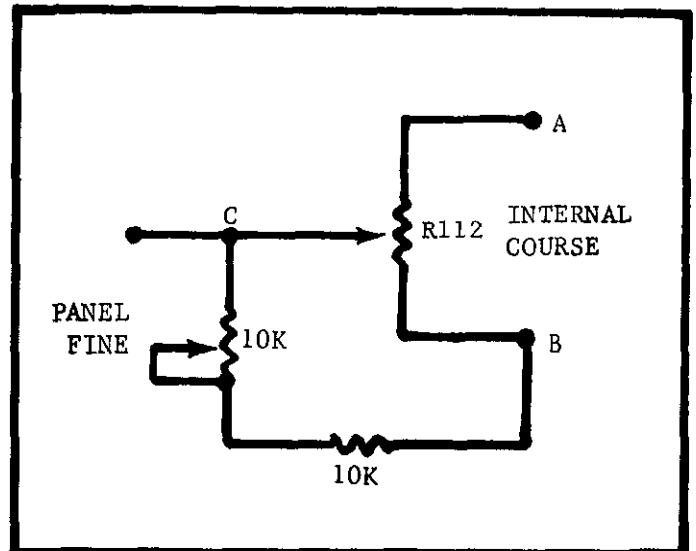

FIGURE 19. Internal Coarse Zero and Remote Mounted Fine Zero. Letters refer to terminals in Figure 2. R112 is already connected within the Model 300.
1. Connect a potentiometer in series with a resistor of at least 10 kilohms between terminals C and A or between terminals C and B, as in Figure 19.